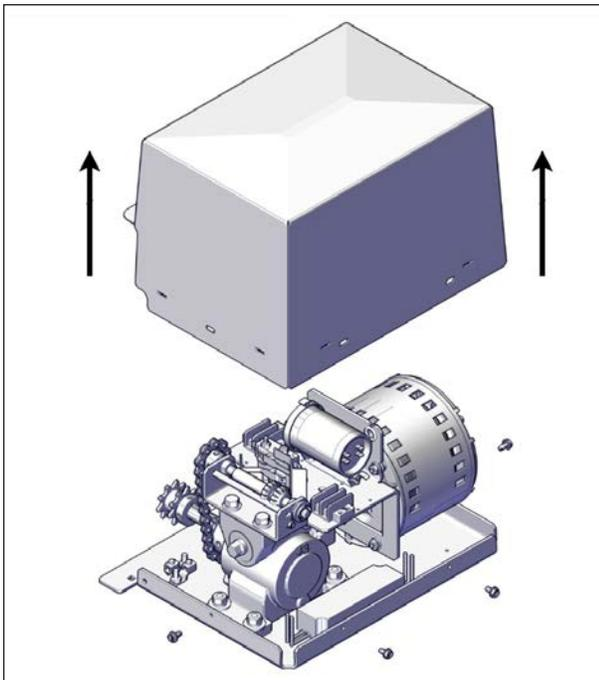

FIGURE 60: REMOVE OPERATOR COVER
1. Remove the screws (4) on the bottom side of the operator cover and remove the cover, see Figure 60.
2. Remove the four slotted screws at the bottom of the operator and remove the cover, see Figure 60.